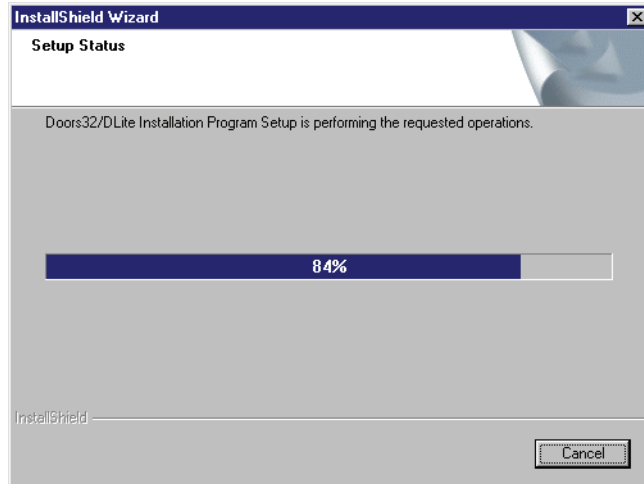

Figure 1-9: Remove Programs Status Window
8. The uninstall program begins and a Remove Programs window appears (see Figure 1-9 on page 16 of this section).